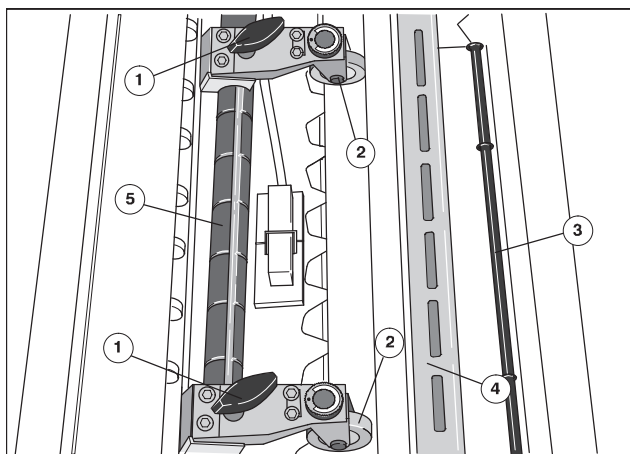

Fig. 12 Adjusting forwarding rollers
1. Inch the press until the forwarding rollers (Fig. 12/2) touch down on the transport roller.
2. Slacken the tommy bar screw (Fig. 12/1).
3. Lift up the forwarding roller (Fig. 12/2) and move it along the shaft (Fig. 12/5) according to sheet size.
5. Use the tommy bar screw (Fig. 12/1) to fix the forwarding rollers in the lock-in position.